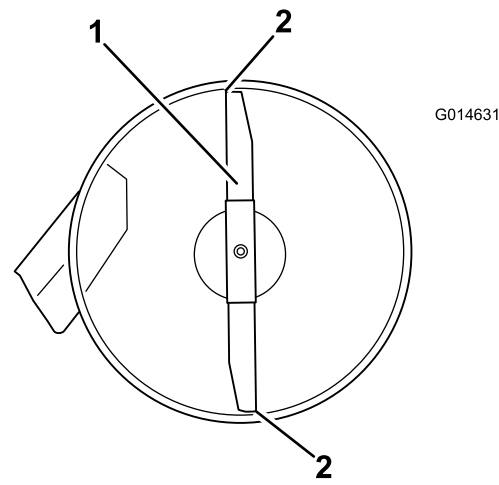

Figure 53
4. Carefully rotate the blades so they are facing front to rear (Figure 53).
5. Measure from the tip of the front blade to the flat surface and the tip of the rear blade to the flat surface (Figure 53). If the front blade tip is not 1.6-7.9 mm (1/16-5/16 inch) lower than the rear blade tip, adjust the front locknut.
8. After adjustment, check the front-to-rear slope again. Continue adjusting the nut until the front blade tip is 1.6-7.9 mm (1/16-5/16 inch) lower than the rear blade tip (Figure 53).